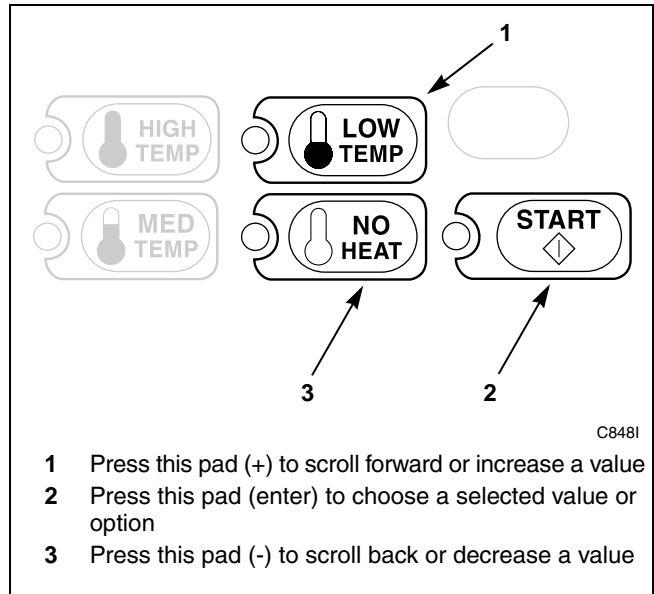

Figure 40
3. Press the LOW TEMP (+) or the NO HEAT (-) keypad to scroll through the programmable options until “+008” appears in the VFD. Refer to *Figure 40*.